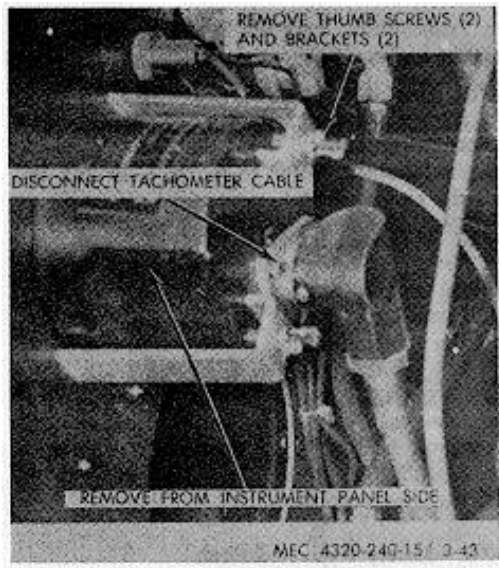

Figure 3-43. Tachometer and Hourmeter removal and installation.
- a. Removal. Refer to figure 3-43 and remove the tachometer and hourmeter.
- b. Installation. Refer to figure 3-43 and install the tachometer and hourmeter.